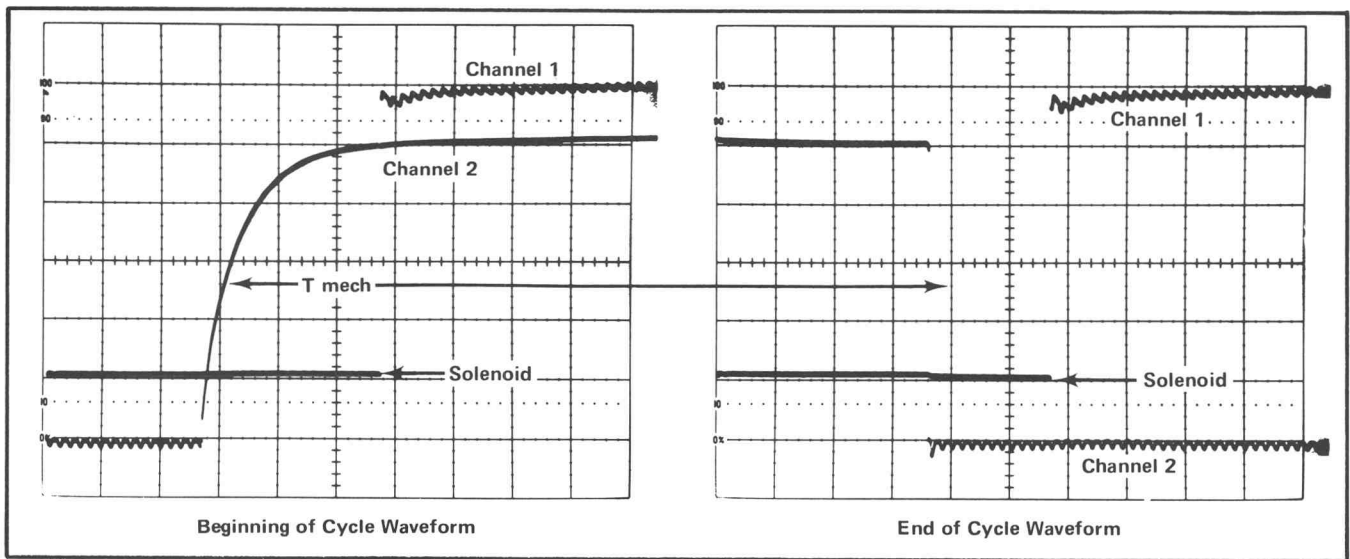

Fig. 5-9. Cam timing waveform of beginning and end of copy cycle.
e. CHECK—Test oscilloscope waveform, for the T_{mech} leading and trailing waveform edges occurring approximately midway in the solenoid negative-going waveform time; see Fig. 5-9.